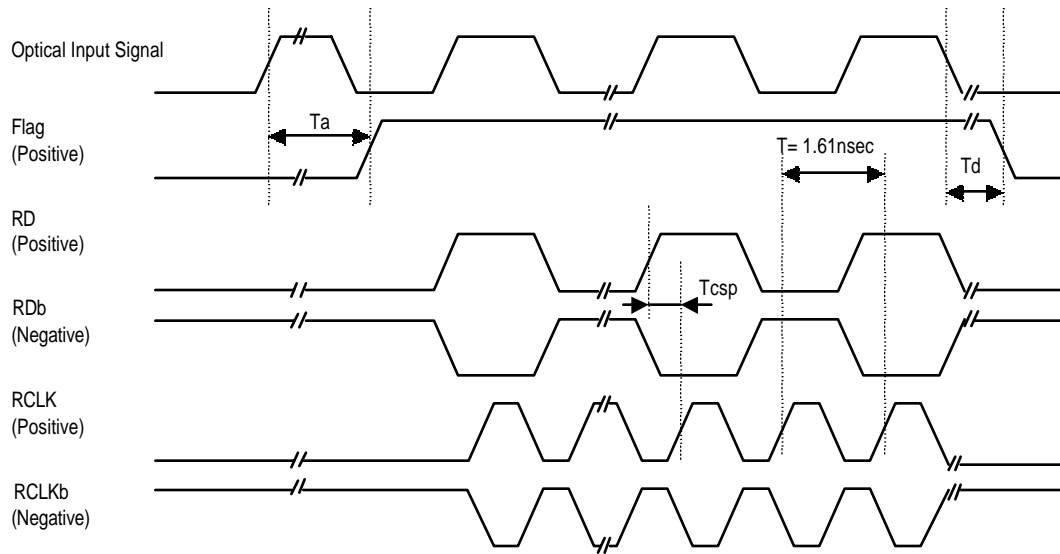

Figure 4. Timing Chart
6. Phase difference between rising edge of RD and rising edge of RCLK. (Please refer to Figure 4)
6. Refer to Figure 4